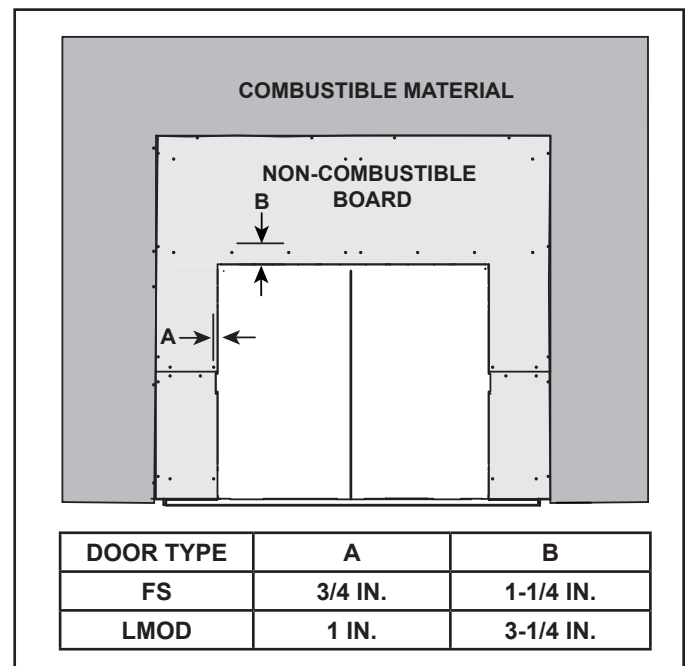

Figure 10.12 Required Clearance for Inside Fit Doors
**NOTICE:** Proper clearances from the fireplace opening to finishing material thicker than 1 inch **MUST** be maintained when installing appliance in an inside fit application. See Figure 10.12.